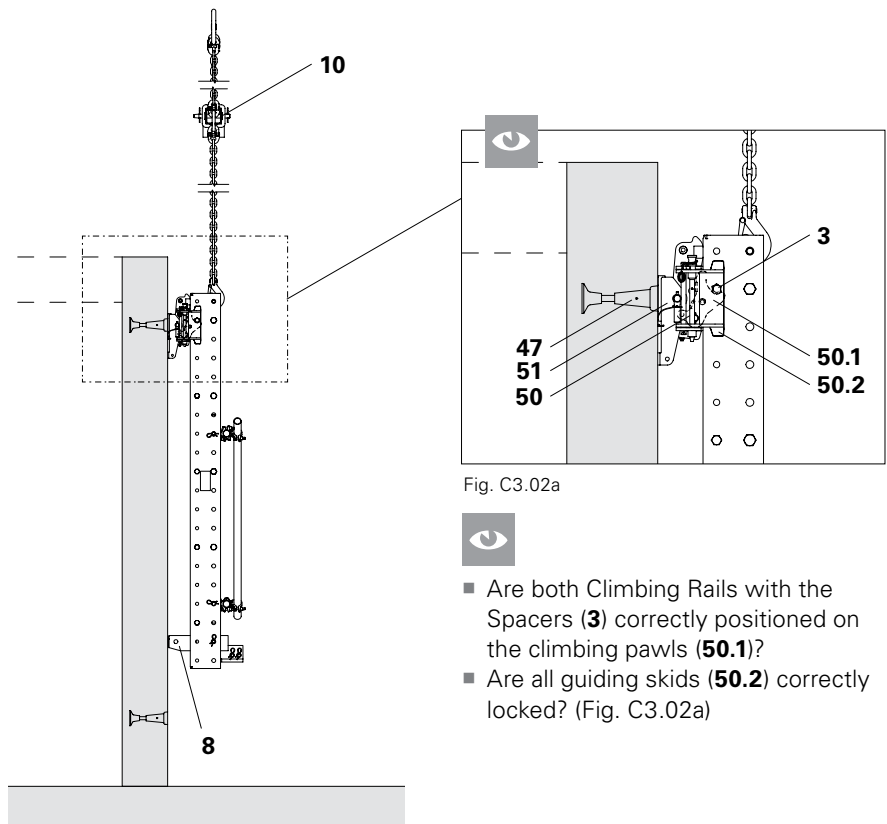

Fig. C3.02a
- Are all guiding skids (**50.2**) correctly locked? (Fig. C3.02a)